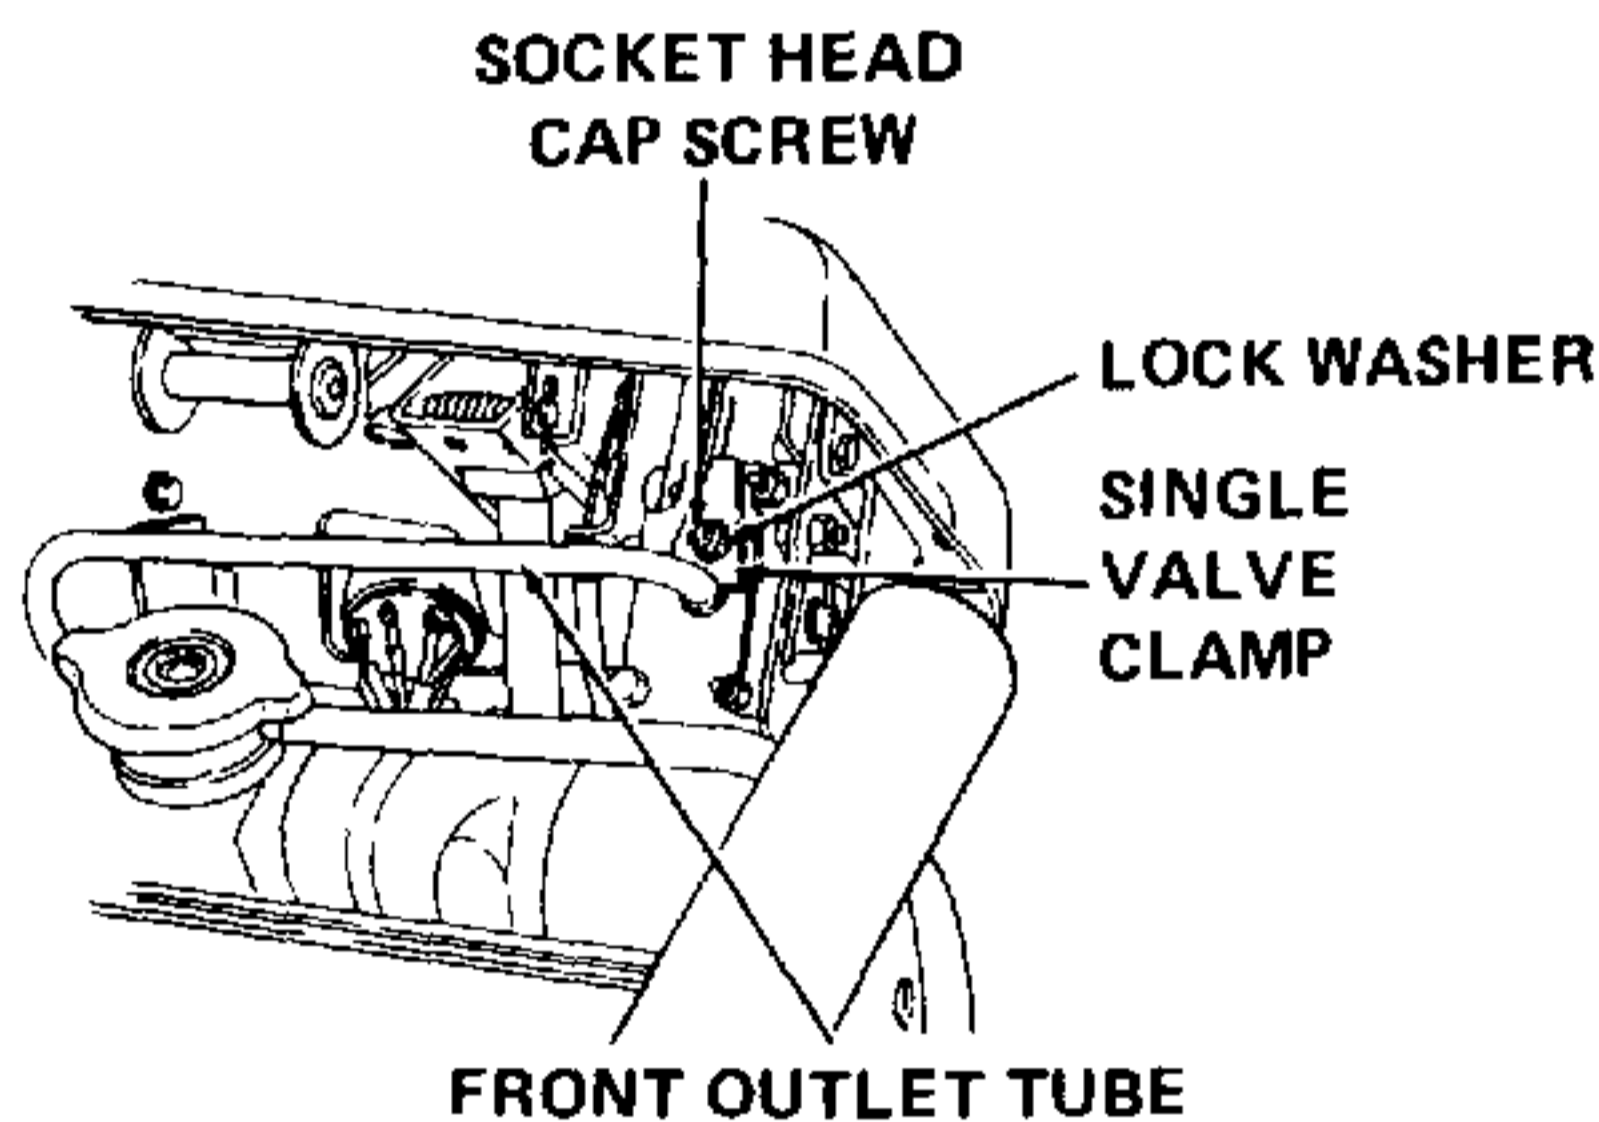

Figure 7-81. Further Installation of Front Outlet Tube (Models 1782 and 2182 Only).
- d. Place upper end of front outlet tube in the top port of the hydraulic valve and loosely attach with the single valve clamp, lock washer and socket head cap screw retained in step 7-5.3.1. Refer to Figure 7-81.